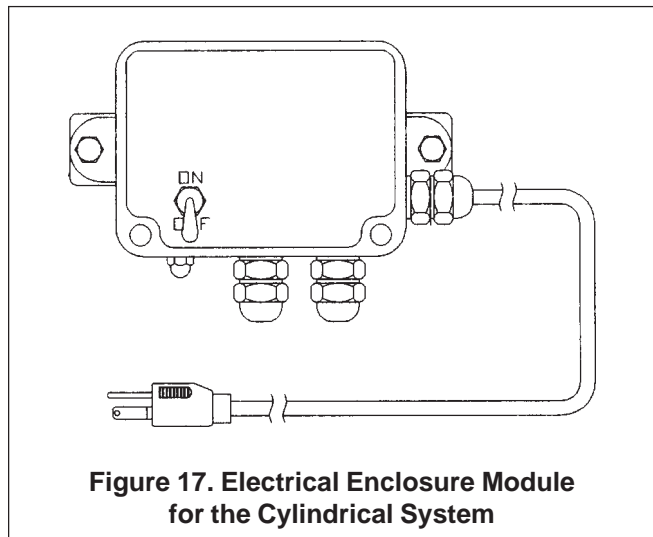

**Figure 16. Counter Module for the Cylindrical System**
**COUNTER MODULE FOR THE CYLINDRICAL SYSTEM.** (See Figure 16.)